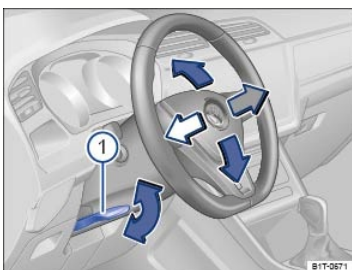

Fig. 77 Manual adjustment for the steering wheel position.
The steering wheel can be adjusted up and down (blue arrows) or forward and back (white and gray arrows) ⇒ Fig. 77.
- Push down on the lever ⇒ Fig. 77①.
- Always pull the lever ⇒ Fig. 77① firmly upward after adjusting the steering wheel so that the steering wheel does not change position suddenly while the vehicle is moving.